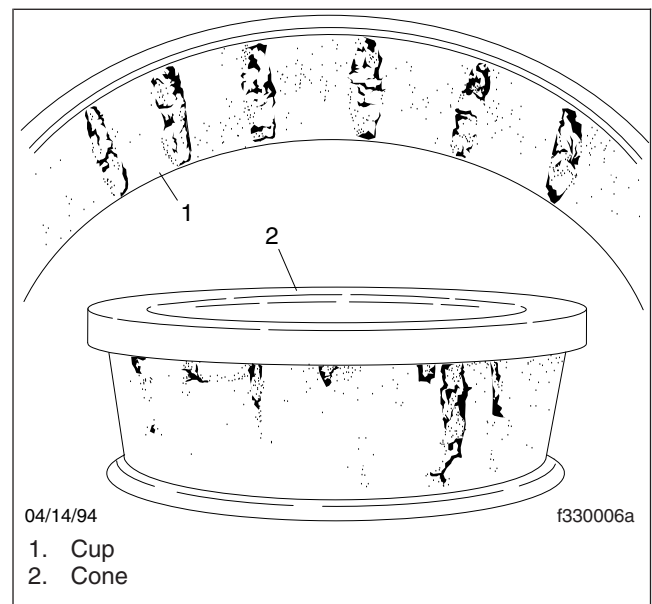

Fig. 3, Spalling (Flaking) of Wheel Bearing Assembly
3. Remove all the old grease or oil from the surfaces of the wheel bearing cups. Inspect the wheel bearing cups for cracks, wear, spalling, or flaking. See Fig. 3. Replace the cups if damaged in any way. For instructions, see Subject 130.
- Spalling (flaking) of the bearing cup, roller, or cone surfaces. See Fig. 3.